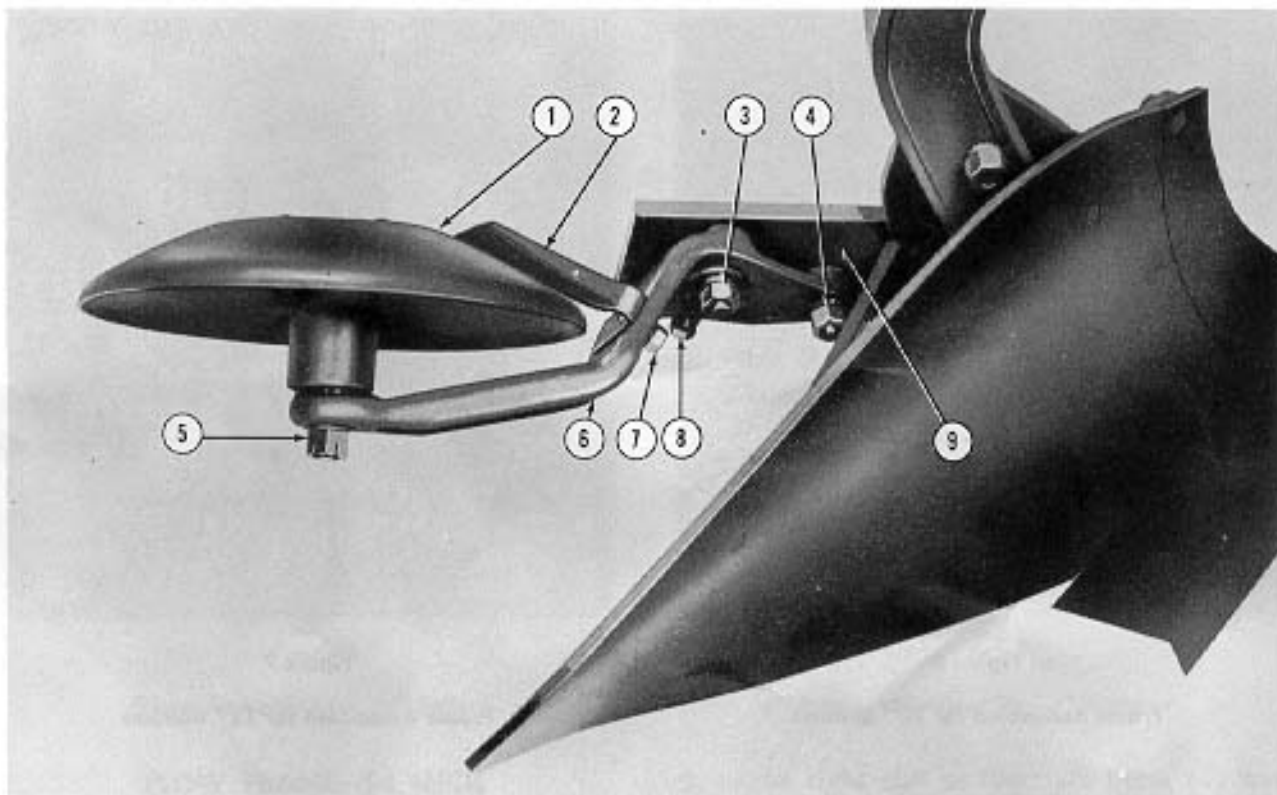

Figure 5
- a. Bolt the rolling landside arm (6), Figure 5, to the rear bottom sliding landside (9) with the plow bolts (3) and (4) loosely. Do not tighten at this time.
ing bolt (8), Figure 5, until the rolling landside (1) is not more than $\frac{1}{2}$ inch below the lower edge of the sliding landside (9) and secure with the locknut.
- d. Tighten the nuts on the bolts (3) and (4), Figure 5, securely and lower the plow to the ground.
- e. Adjust the scraper (2), Figure 5, so it just touches the rolling landside (1) and secure with the carriage bolt (7), lockwasher and nut.